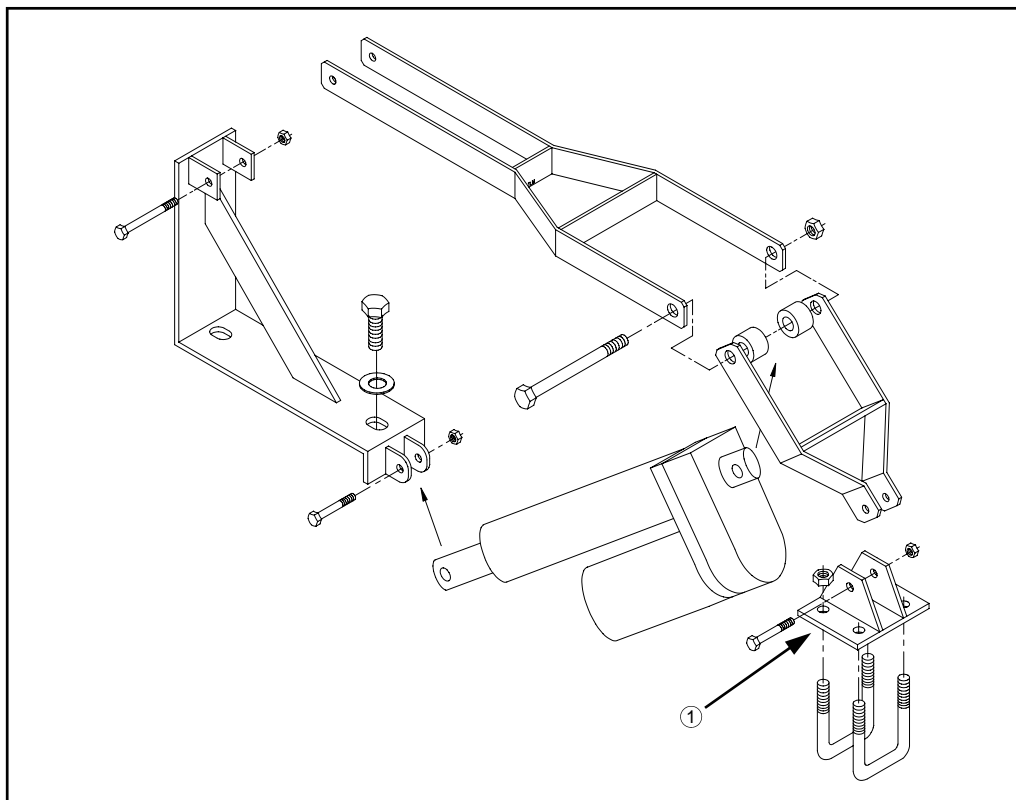
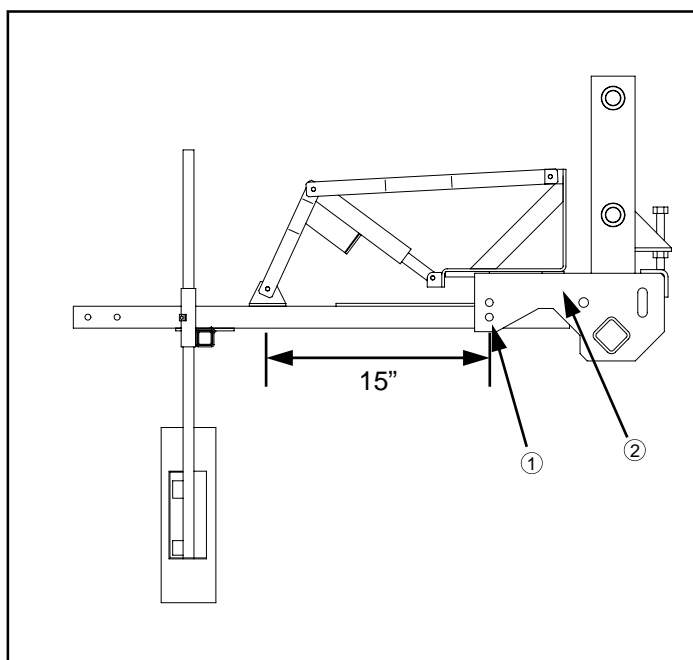

FIG 3.27
FIG 3.28
1. Attach the depth command actuator assembly (fig. 3.27) to the tool bar (fig. 3.28, item 2).
2. Attach the adjustable slide mount (fig. 3.27, item 1) to the sensor arm approximately 15 inches away from the sensor arm pivot (fig. 3.28, item 1). This should give you equal travel distance up and down of the actuator.
Over tightening of the sensor arm pivot mounting bolt (fig. 3.28, item 1) may cause the actuator to stall.